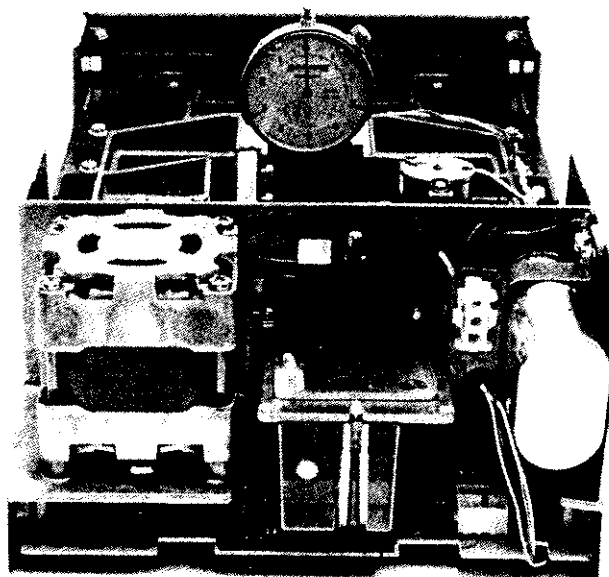

FIGURE 44. CORRECT PENETRATION
- f. Check the dial indicator for the proper setting. The long hand should be between +3 and -3 with the short hand pointing at three. If penetration setting is out of this range then continue with procedure starting at step 7. See Figure 44.